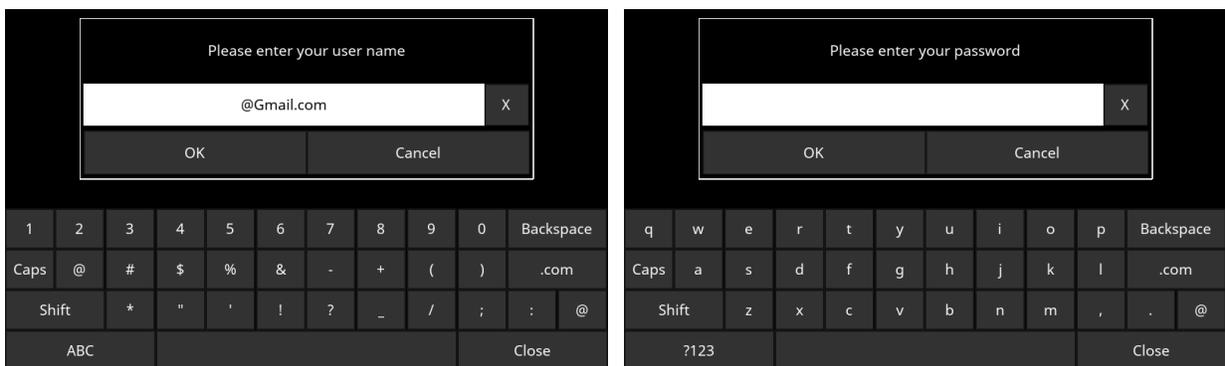

Figure 5-11: Entering a GMAIL email address (L) and password (R)
- Press **Username** to display a keyboard where you can enter your GMAIL user name only; you do **not** need to enter @gmail.com. Then press OK when done (left image in Figure 5-11).
- Press **Password** to display a keyboard where you can enter your GMAIL password. Then press OK when done (right image in Figure 5-11).